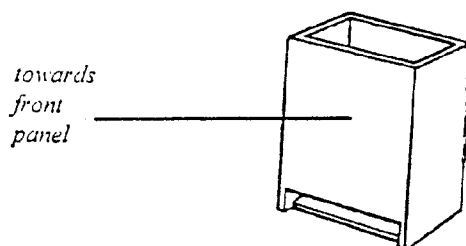

Fig. 9
2. To replace condensate drains, hold drain against front panel under rectangular hole (opening in side of drain should be toward front panel). Push up through hole until drain snaps into place (see Fig. 9).